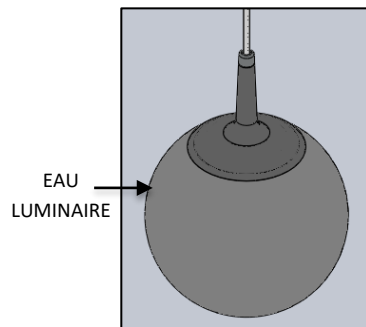

FIG.2 EAU LUMINAIRE
1. EAU LUMINAIRE with CORD attached. (Pre-assembled as shown in FIG. 2)